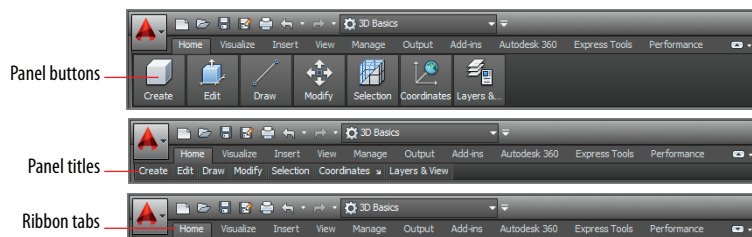

FIGURE 1.11 Ribbon modes
2. Click the Minimize Ribbon button, and observe that the full ribbon changes to display tabs and panel buttons (see Figure 1.11). Hover the cursor over the panel buttons. The buttons expand to reveal all the tools shown on the full ribbon.